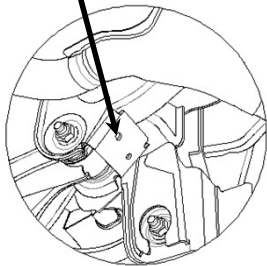

Figure 3
1. Remove the existing inner tailpipe hanger 8mm bolt, and replace with supplied 8mm bolt (item 1). Both sides. Tighten bolt to specification. Hang 1/2" flat washers (2 each side) over weld nut on 8mm bolt. Return bolt/s to owner.
2. Install forward hitch bracket "A" or "B" as shown. Slide "handle-nut" (item 10) behind the vehicle cross-member on the driver's side, using the 1/2-13 X 1.5 bolt (item 8) and attach the forward bracket that's called out for the vehicle. Hand tighten only.
•On Buick LaCrosse and Cadillac XTS enlarge rearward hole on vehicle suspension mount to accept a 1/2 bolt. See Figure 3
3. Raise rearward section of the hitch into place, over 8mm bolts (installed in step 1) sandwiching the 1/2" flat washers between exhaust hanger and hitch bracket. Attach the 3/8" conical washers & M8 hex nuts (item 3 & 4) to bolts. Hand tighten only.
4. Install the 1/2" carriage bolts (4) into the plate on the hitch's support plate.
6. Attach the opposite end of the center section to the forward bracket with the 1/2" bolt & 1/2" conical washer (item 9 & 3) install from the bottom. Attach the 1/2" conical washer and 1/2" hex nut. The center section is designed to pivot, for better installation.